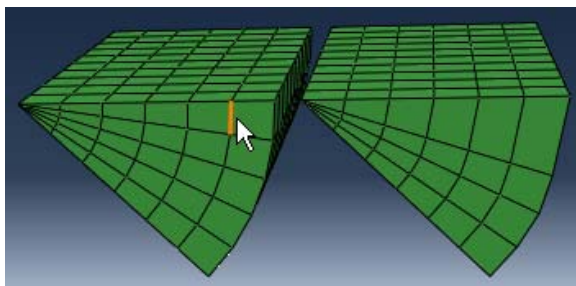

Figure 64–10 Merging element layers.
- **Merge layers.** You can select a group of adjacent elements and join them along a specified direction. Each merged element will have the combined shape of the parent elements and the same element type. After selecting the elements to merge, you choose an edge within the elements to be merged to indicate the merge direction, as shown on the left in Figure 64–10. The top two layers of elements were selected using the **by topology** selection method (for more information, see “Using the topology method to select multiple elements,” Section 6.2.5); for clarity the selection is not shown in the figure. You need not select entire layers of elements to merge. However, if you do not select entire layers, Abaqus/CAE will warn you that the new elements will be incompatible with the surrounding mesh. You can then choose to continue or cancel the merge procedure. You cannot merge quadratic elements.